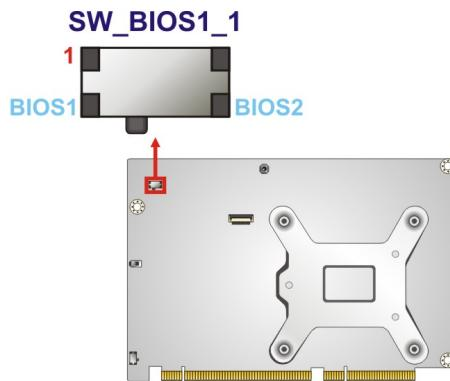

Figure 3-17: BIOS Switch Location
Step 2: Switch BIOS1 to BIOS2 or BIOS2 to BIOS1 by moving the BIOS switch to BIOS1 or BIOS2 position as shown in **Figure 3-17**.